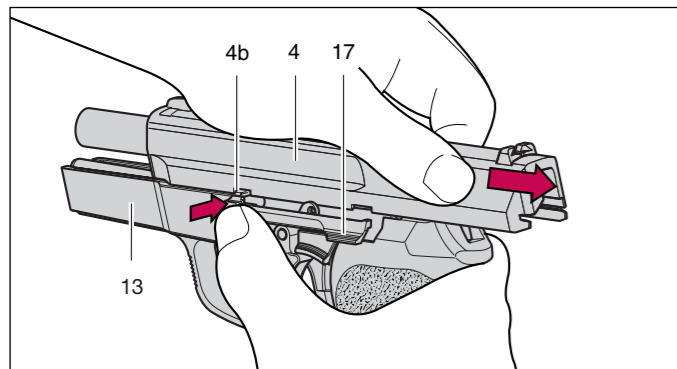

Fig. 15
7. Hold the frame **13** with the right hand. Pull the slide **4** back with the left hand until the recess **4b** on the slide **4** coincides with the slide catch lever lug **17**. Press the slide catch lever **17** into position until it audibly notches home (Fig. 15).